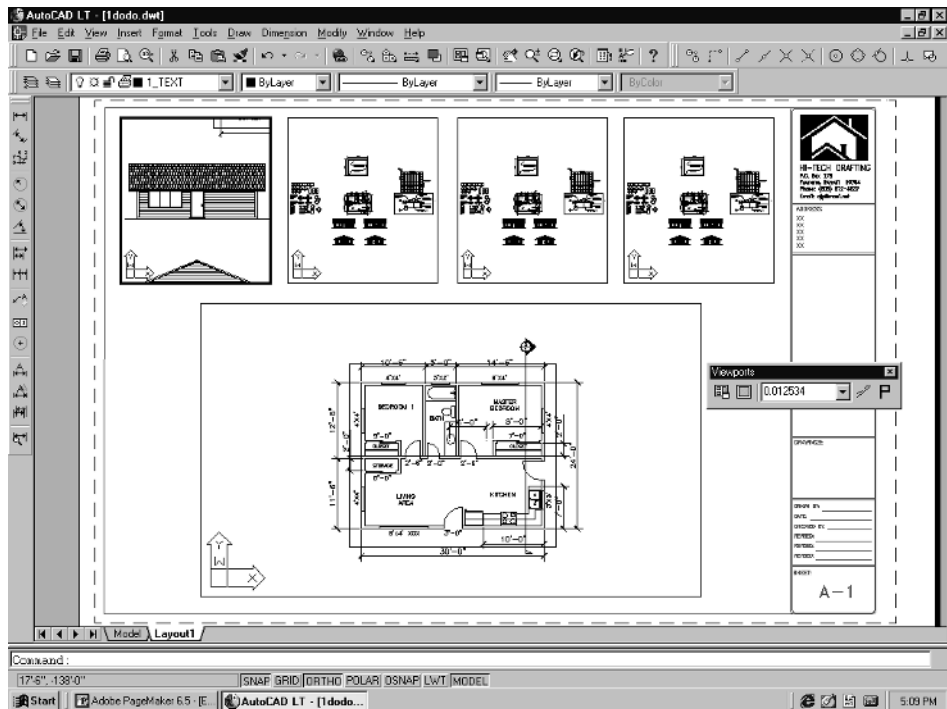

Figure 4-74
2. Pick in the first one on the left and type **ZOOM** and **Enter**. Type **W** and **Enter**. Draw a “window” around one of the elevations. This should fill the viewport with that elevation. See Figure 4-74.